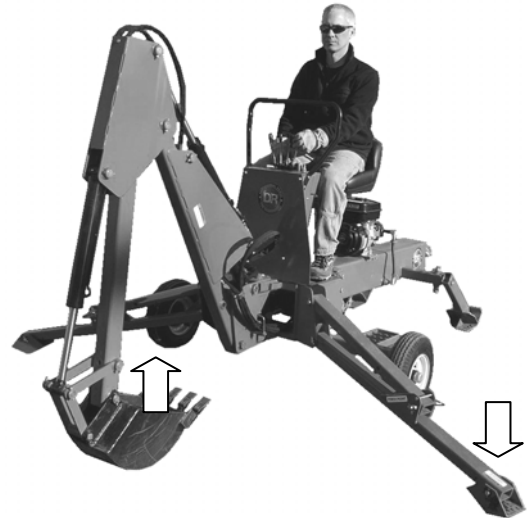

Figure 17
16. Start the Backhoe engine and get into the Operator seat to raise the Boom to lower the Backhoe onto the Front Stabilizers (**Figure 17**).